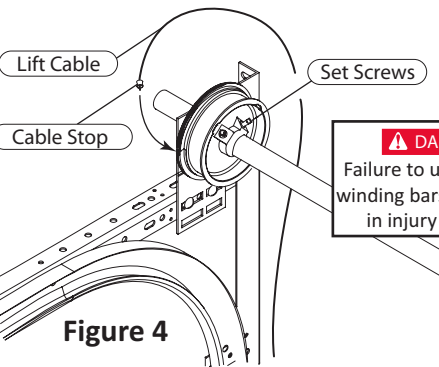

Figure 4
Bring the Left Side Lift Cable up between the door and the track, behind the Torsion Shaft and over the Left Side Drum. Slide the drum against the End Bearing Plate. Hook the Cable Stop into the notch on the outside edge of the drum (Figure 4). Turn the drum with your hand until the cable is snug. Using only your fingers, tighten the (2) Set Screws on the drum until the set screws come in contact with the drum. Then, turn each screw 1/2 to 1 turn with a wrench.